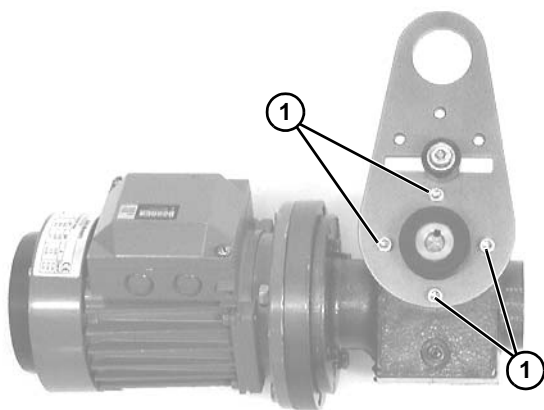

Figure 6
2. If required, change gearmotor position by removing four (4) screws (**Figure 6, item 1**). Rotate gearmotor to other position and replace screws. Tighten to 103 in-lb (12 Nm).